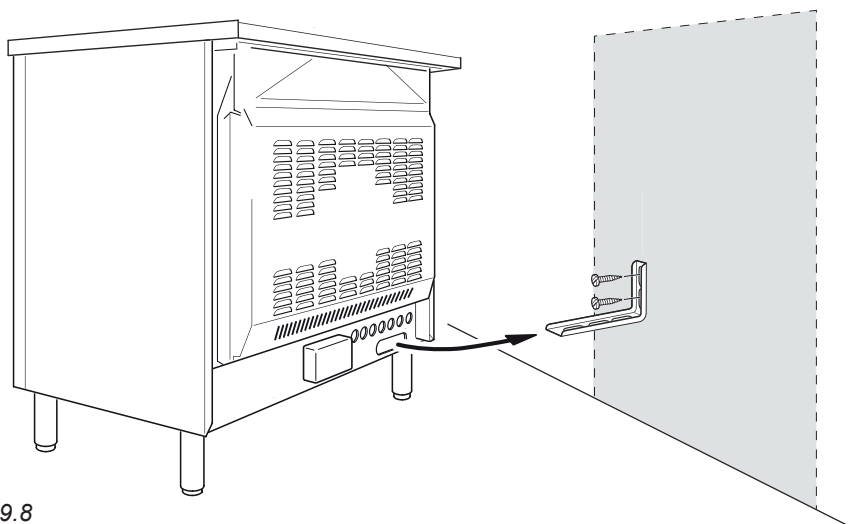

Fig. 9.8
Please follow the indications given in fig. 9.8.
4. Move the cooker to the wall and adjust the height of the anti-tilt bracket so that it can engage in the slot on the cooker's back, as shown in fig. 9.8.